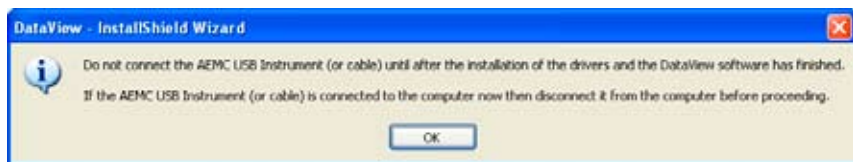

Figure 1-3
10. If the feature selected for installation requires the use of a USB port, a warning box will appear, similar to Figure 1-3. Click **OK**.